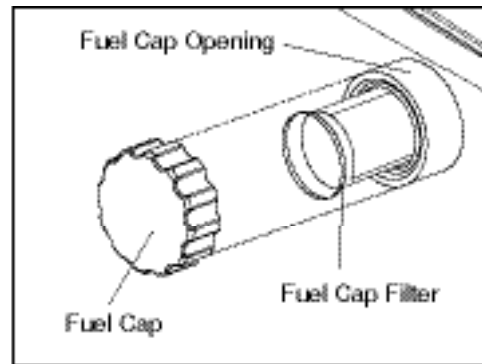

Figure 11. Reinstall Fuel Cap Filter
4. Reinstall Fuel Cap Filter and Fuel Cap(See Figure 11).